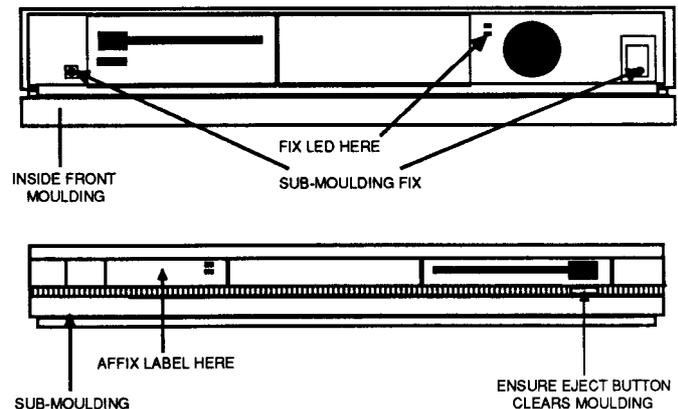

FIG. 5 FRONT MOULDING ASSEMBLY DETAILS
10. Taking the front moulding assembly, locate and remove the two self-tapping screws at each end inside the main moulding and slide the sub-moulding away from the main moulding (see fig. 5).